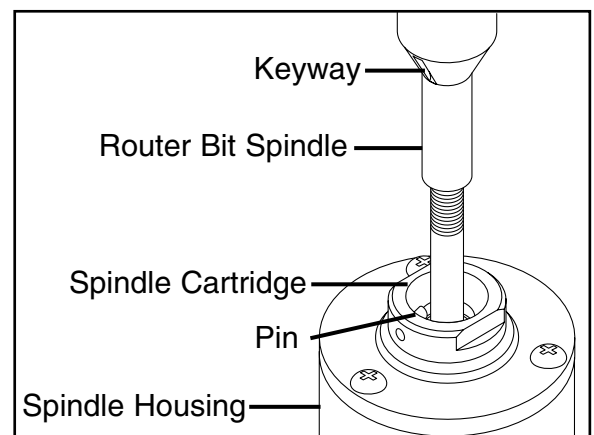

Figure 3. Inserting Router Bit Spindle.
3. Place the router bit spindle into the spindle housing and line up the pin with the keyway. **Figure 3.** Tighten the tie rod nut to secure. Use a back-up wrench on the router bit spindle while tightening the tie rod nut.